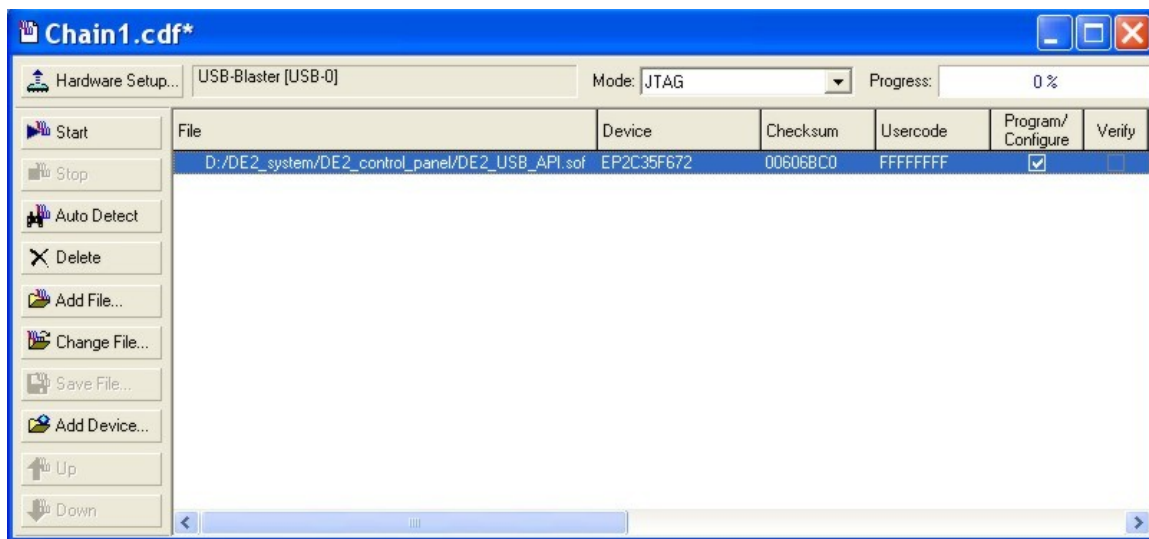

Figure 3.1. Quartus II Programmer window.
4. Select **Tools > Programmer** to reach the window in Figure 3.1. Click on **Add File** and in the pop-up window that appears select the *DE2\_USB\_API.sof* file. Next, click on the **Program/Configure** box which results in the image displayed in the figure. Now, click **Start** to download the configuration file into the FPGA.